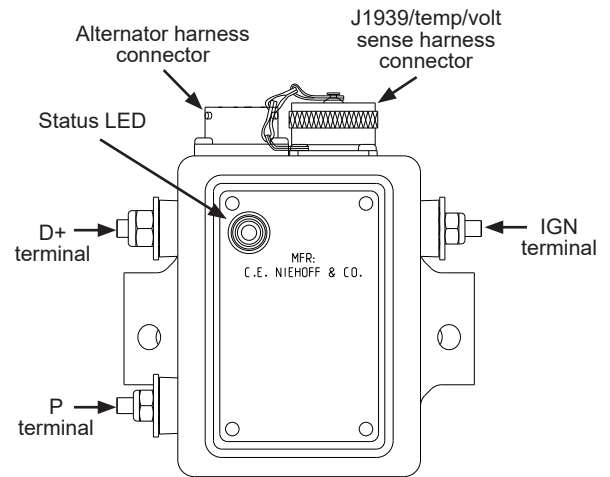

Figure 13: N3061 Regulator Connections
2. Plug alternator-to-regulator harness into receptacle on regulator. See Figure 13 for receptacle location.
- Regulator IGN terminal (required) must receive voltage from vehicle DC ignition source or multiplex system in order to energize charging system. Torque to 3.4 Nm/30 lb. in. See Figure 13.
- Regulator D+ terminal (if required by vehicle) provides DC system battery voltage to vehicle (5A maximum) for charge indicator lamp, relay, or multiplex while alternator is producing output. Torque terminal hardware to 3.4 Nm/30 lb. in. See Figure 13.
- Regulator P/AC/R terminal (if required by vehicle) taps AC voltage from alternator, typically half the charge voltage (5A maximum). P/AC terminal provides alternator RPM frequency at 10:1 ratio for use with tachometer. Torque terminal hardware to 3.4 Nm/30 lb. in. See Figure 13.
- a. Unscrew J1939/temperature/voltage receptacle connector cap and secure the chain to a nearby cable or bracket with a cable tie. See Figure 13 for receptacle location.